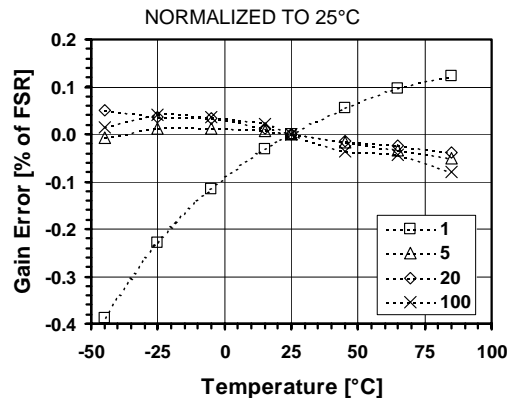

Figure 17-19. Gain error vs. temperature for different PGA gains
- Gain error is defined as the amount of deviation between the ideal (theoretical) transfer function and the measured transfer function (with the offset error removed). (See Figure 17-19)
Figure 17-19 shows gain error drift vs. temperature for different PGA gains. The curves are expressed in % of Full-Scale Range (FSR) normalized to 25°C.